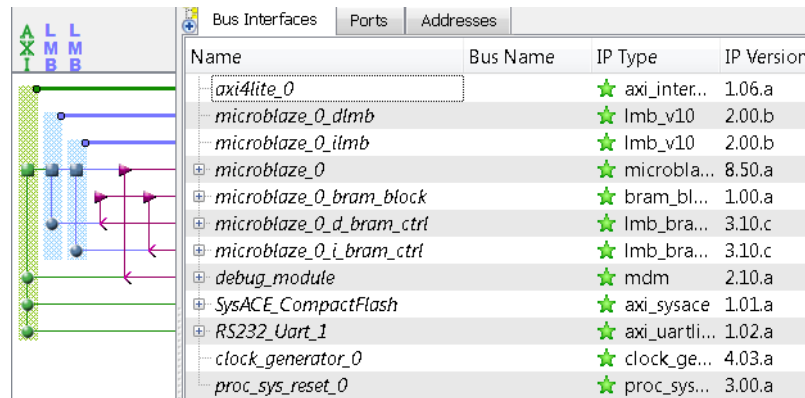

Figure 3: Displaying the System Assembly View
10. If the **Next Step** dialog box opens, click **OK** to start using Platform Studio and open the System Assembly View window as shown in Figure 3.